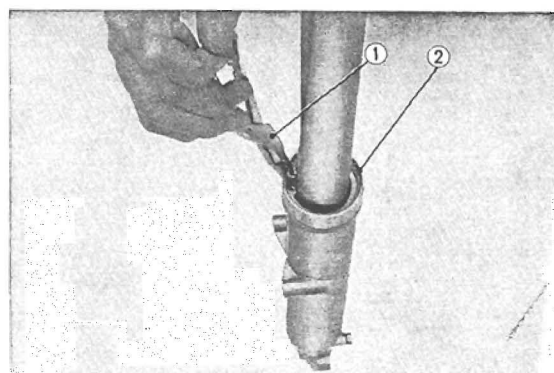

Fig. 4.19 Removing the 47 mm circlip
5. Remove the front boot (CB 450 : front fork under cover), front cushion spring and then remove the 47 mm internal circlip using the snap ring plier. Pull out and disassemble the front fork bottom pipe and the front fork pipe assembly. (Fig. 4.19)